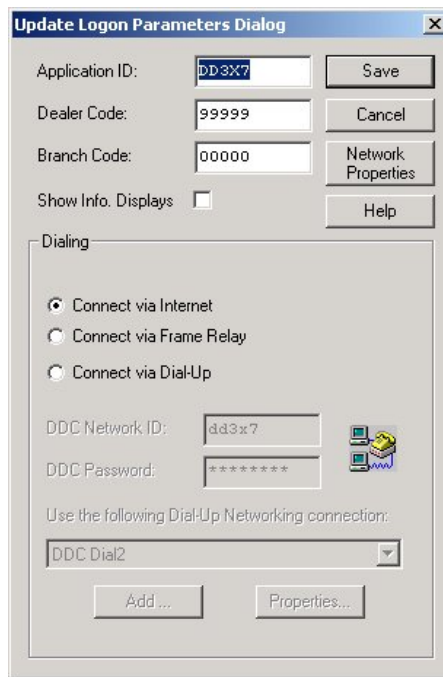

Figure 1
1. After installing DRS 6.0, double-click on the “DDC Mainframe Communications” icon then click the “Update Logon Parameters” button. The screen shown below will be displayed (Figure 1).